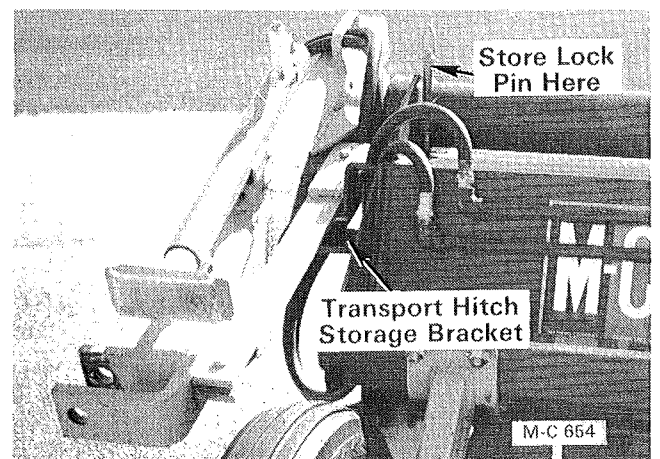

Figure 15F
holder on the left side of the Shredder, see Figure 15F.
11. Slide the transport hitch assembly into the pipe and place it on the storage bracket, see Figure 15F.